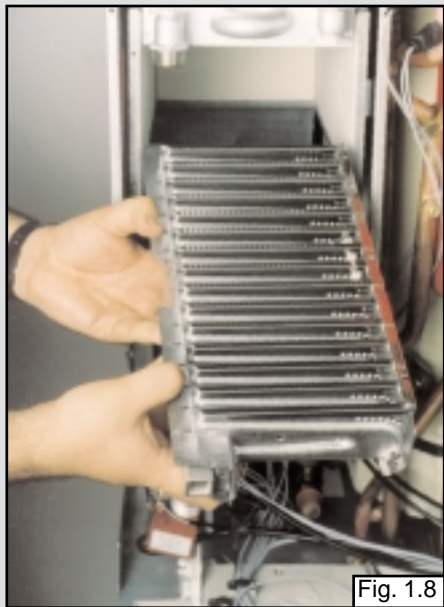

Fig. 1.8
2. Lift up the main burner to free the main gas connection and pull forward very carefully (see fig. 1.8);